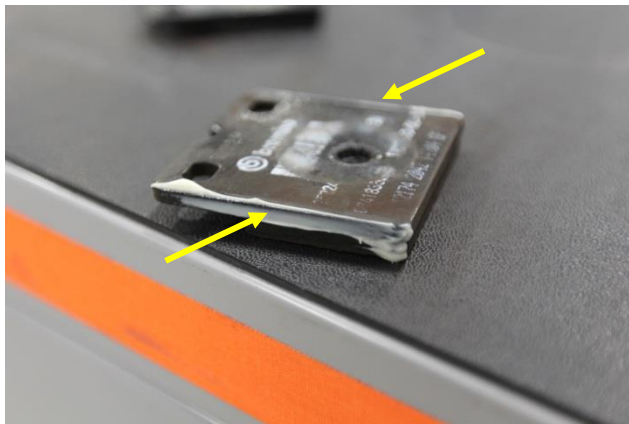

Figure 28
40. Apply a thin layer of Tesla-approved brake caliper lubricant to the brake pad edges that contact the abutment flats (Figure 28).